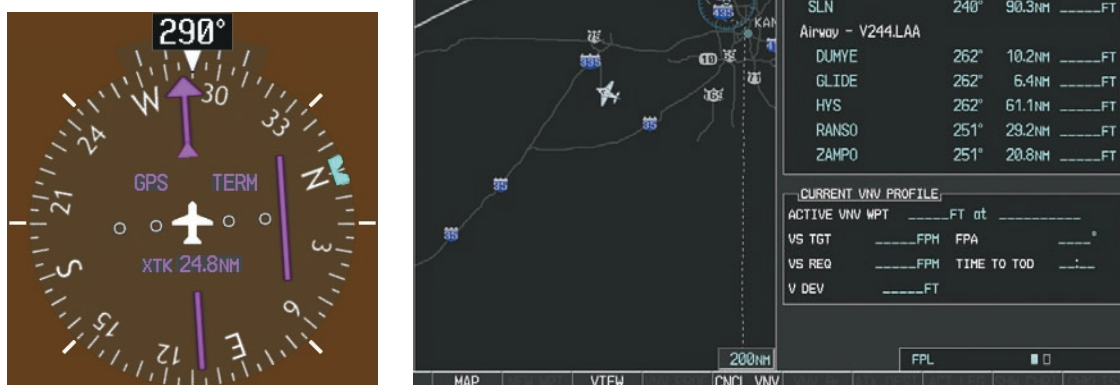

Figure 5-104 Assigned Heading of 290°
- 3) ATC now assigns routing to join V4. A heading of 290° is assigned to intercept V4. The aircraft turns to heading 290° as seen in Figure 5-104.
- e) With SLN still highlighted as in Figure 5-104, turn the small **FMS** Knob clockwise. The Waypoint Information Page is displayed and the **LD AIRWY** Softkey is now available.